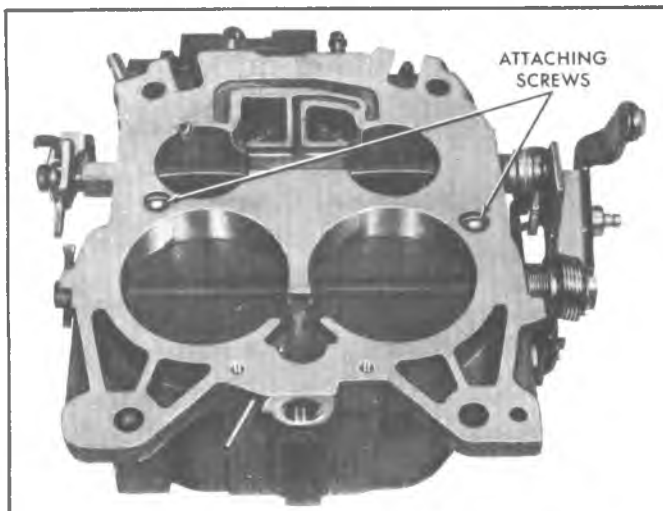

Fig. 18MQ—Removing Throttle Body
- Remove throttle body by removing throttle body to bowl attaching screws (Fig. 18MQ).
2. Install throttle body making certain throttle body is properly located over dowels on float bowl, then install throttle body to bowl screws and tighten evenly and securely (Fig. 18MQ).